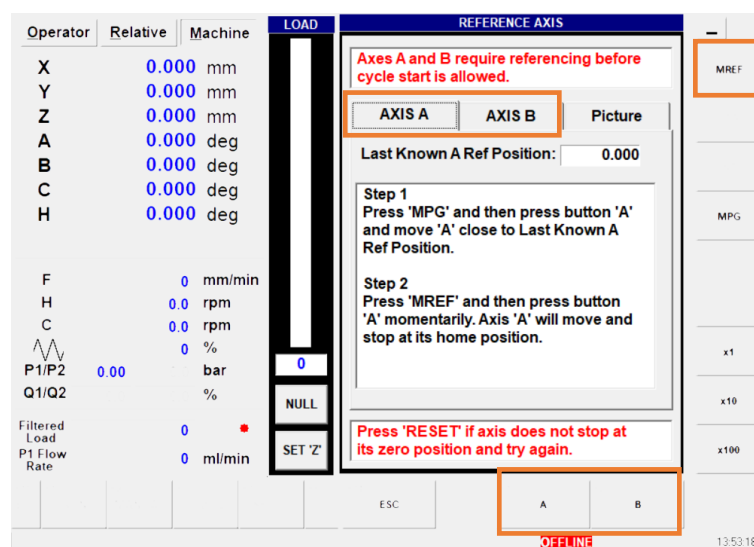

Figure 15 - Reference axis A
5. When complete and the MACHINE POSITION displays 0.000 mm for the A-axis, now perform the same operation for the B-axis. See (Figure 15 - Reference axis A).